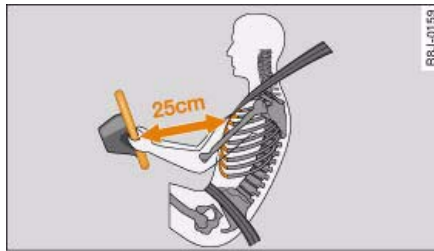

Fig. 217 Minimum distance from steering wheel
- It is important for the driver and front passenger to maintain a distance of at least 25 cm from the steering wheel or dashboard ⇒ fig. 217. The airbag system will not be able to give the required protection if you sit too close to the steering wheel or dashboard. There is also a risk of injury if the airbags are inflated. The front seats and head restraints must always be positioned correctly for the height of the occupant.